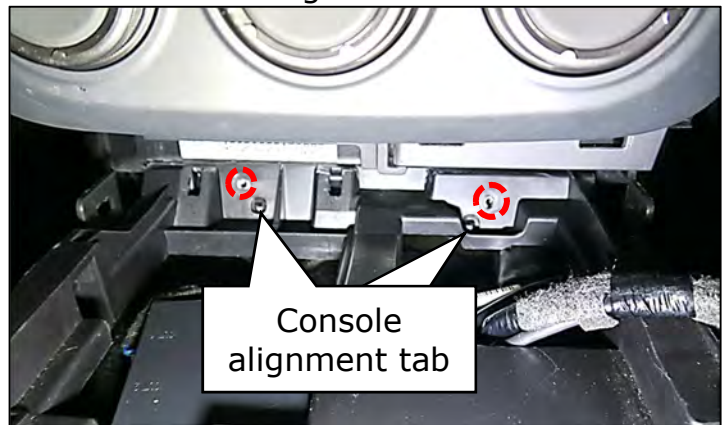

Figure 108
- Align the console alignment tabs with the console alignment holes (just below mounting screw holes) (Figure 108)
- Install the (2) front console screws (Figure 108)